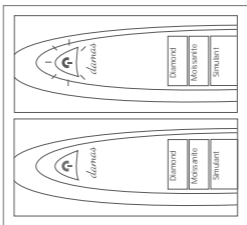

Figure 3
3. Press the Power Button to switch on the tester. Once the READY Light stops blinking, the tester is ready to enter calibration mode as shown in Figure 3. This process may take up to 15 seconds. If the READY Light continues to blink after 15 seconds, the probe tip may not be positioned properly. Kindly repeat the procedure from Steps 1 and 2.